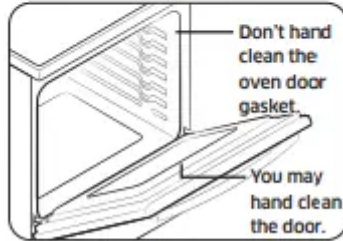

Fig. 2
- Do not clean the gasket. The fiberglass material of the oven door gasket cannot withstand abrasion. It is essential for the gasket to remain intact. If you notice it becoming worn or frayed, have it replaced. (Fig.2)